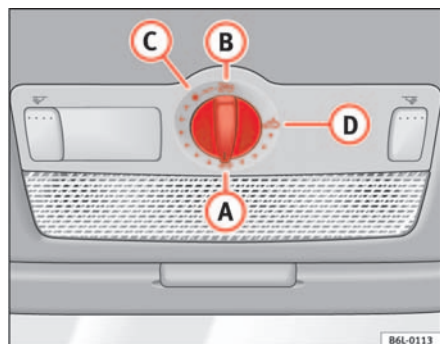

Fig. 53 Detail of the sunroof: rotary button for sliding/tilting sunroof
- Turn the rotary button to position **A** ⇒ fig. 53 ⇒ .